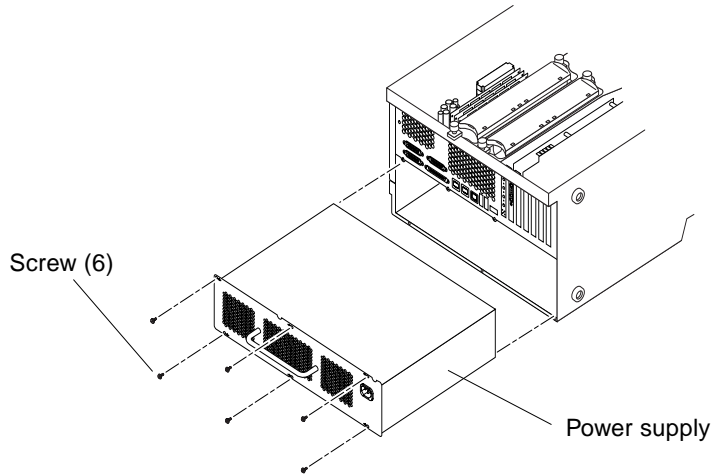

FIGURE 6-3 Removing and Replacing the connectors for the Power Supply Assembly
4. **Using a No. 2 Phillips screwdriver, remove the six screws securing the power supply assembly to the chassis back panel (FIGURE 6-3).**
- 7. Using a No. 2 Phillips screwdriver, replace the six screws securing the power supply assembly to the chassis back panel (FIGURE 6-3).**